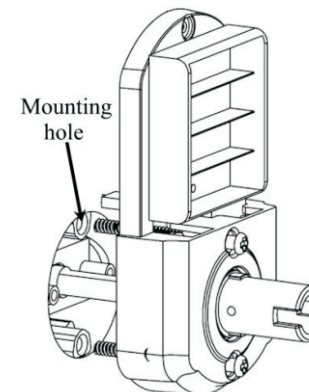

fig. 4
1.4 Insert Mounting Screws to mounting hole on the inside chassis (see fig. 4). Screws should slide smoothly through the hole on door. Use the Philip Screwdriver to drive two screws into the mounting hole on mounting poles.